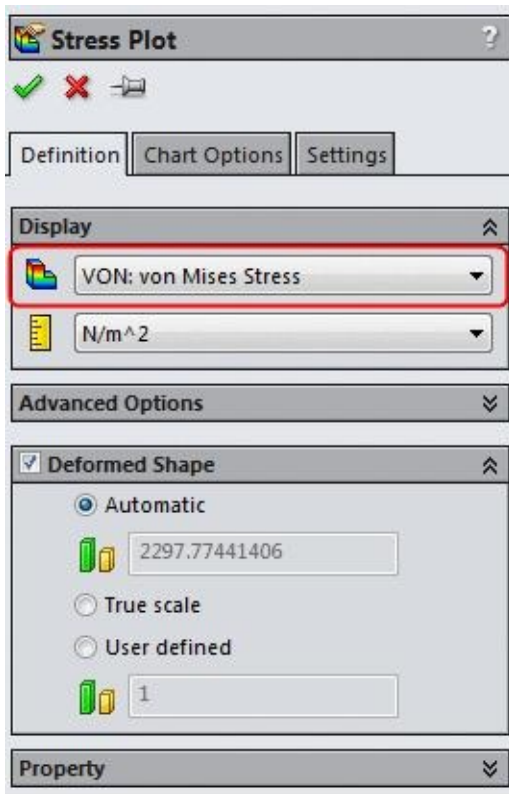

Figure-53. Stress Plot PropertyManager
- By default, the Von-mises stress plot is displayed but sometimes we need other plots of stress also. To do so, right-click on the **Results** node in the **Analysis Manager** and select the **Define Stress Plot** option. The **Stress Plot PropertyManager** will be displayed; refer to Figure-53.